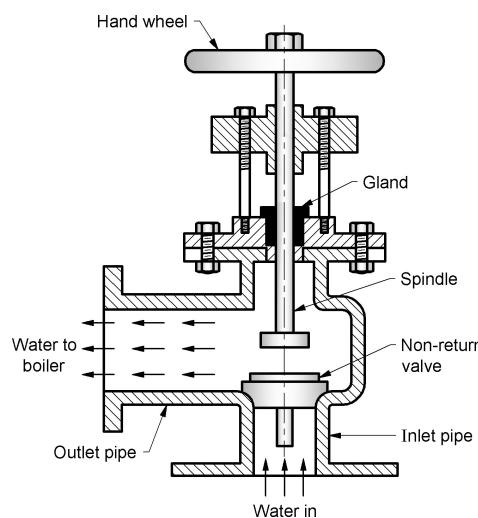

Fig. 2.4 Feed check valve
- (1) It consists of non-return valve, water inlet pipe, water outlet pipe, spindle, gland, and hand wheel as shown in Fig. 2.4.
- (2) Check valve also known as non-return valve automatically moves up and down on its seat. It operates automatically due to pressure difference of water and allows water to flow in one direction only i.e. from feed pump to boiler.
- (3) Valve can be raised or lowered on the gun metal sheet with the help of spindle and hand wheel.
- (4) The inlet pipe is connected with delivery pipe of feed pump while the outlet pipe is connected to the boiler.